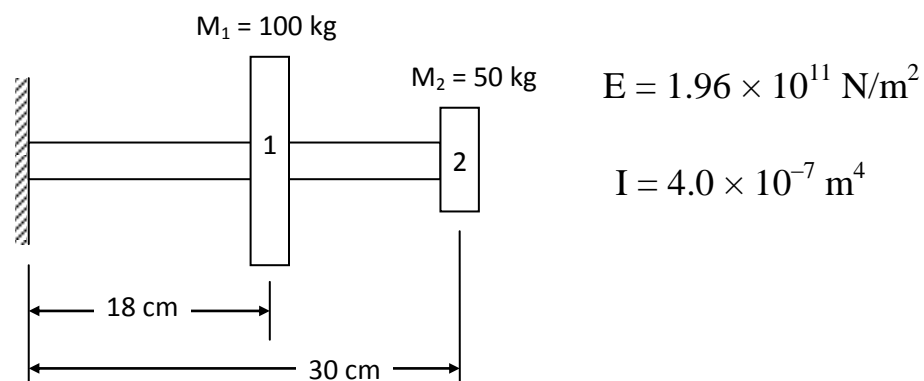

Fig.3
b) Find the two critical speeds of the system shown in Fig.3 below. 7 M